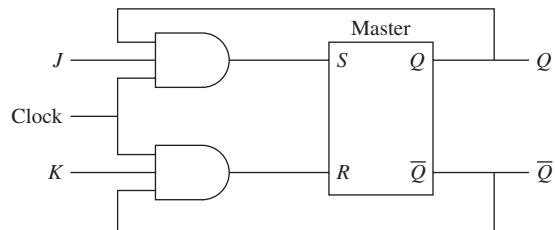

FIGURE P10.59 JK flip-flop for Problem 10.59.
- 10.59 (B)** For the JK flip-flop shown in Figure P10.59, the current values of J and K are $J = 0$, $K = 0$, and $Q = 0$. What is the value of Q when J changes to 1, and K changes to 0 on the arrival of another clock pulse?
- 10.72(H)** For the JK flip-flop shown in Figure P10.59, the current values of J and K are $J = 0, K = 0$, and $Q = 0$. Use PSpice to set up the digital logic circuit. The JK flip-flop circuit can be obtained from part "JKFF" in the DIG_PRIM library. Solution